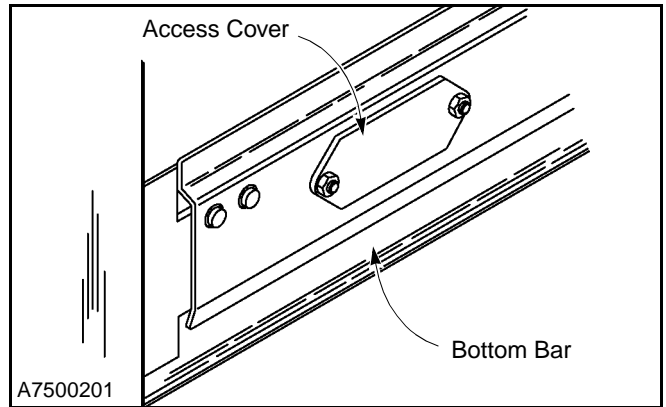

Figure 69
2. Remove the reversing edge switch access cover. The reversing edge switch is mounted behind the access cover at the end of the bottom bar, opposite the coil cord. (See Figure 69.)